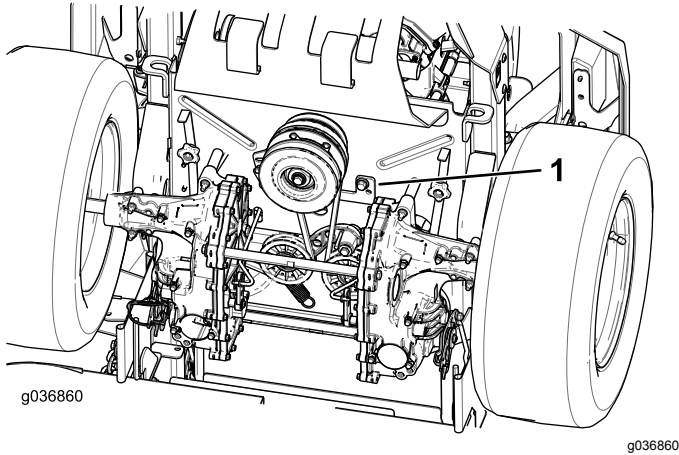

Figure 92
5. Remove the clutch stop (Figure 92).
9. Install the clutch stop (Figure 92).